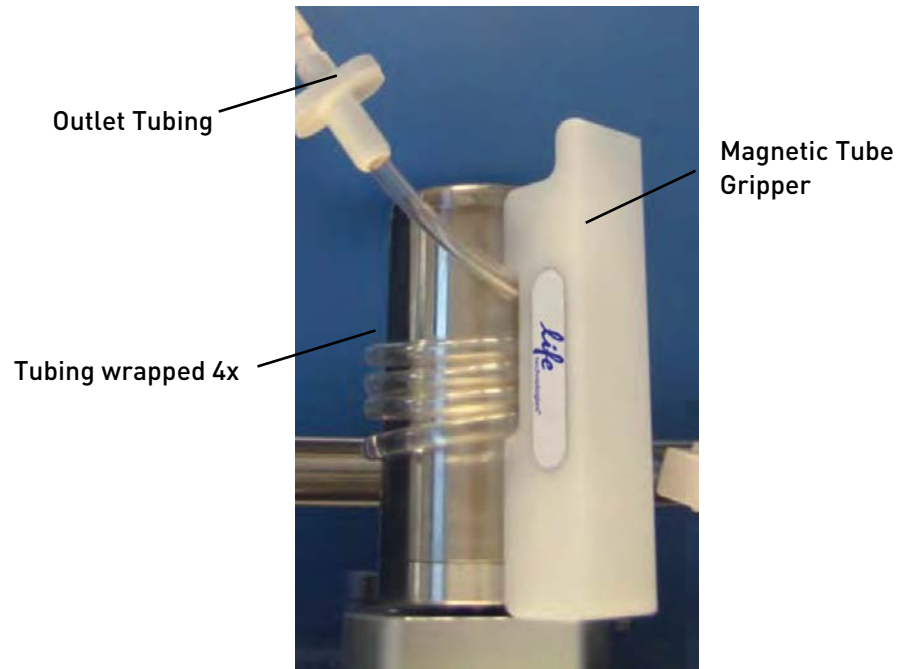

Figure 10 Tubing wrapped four time around the Secondary Magnet
2. Wrap the outlet tubing for the fluid downstream of the Primary Magnet around the Secondary Magnet four times (Figure 10).
Use a roller clamp to regulate the flow-rate from the primary bag, or include a peristaltic pump to the system. Use a minimum length of 50 cm for Tube C as this shall be wrapped around the Secondary Magnet as described (Figure 10, page 8).
8. Detach the Secondary Magnet from its base. Wrap the outlet tubing around the pillar (See Figure 10, page 8) and add the Magnetic Tube Gripper to hold the tubing in place. Re-attach the secondary magnet to its base.